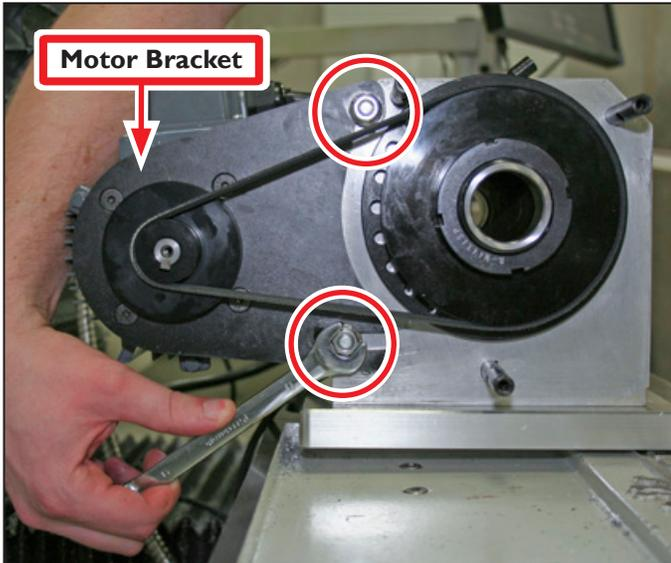

Figure 2.7
4. Using a 13 mm wrench, remove two M8 flange nuts securing Motor Bracket to RapidTurn (see **Figure 2.7**); set aside.